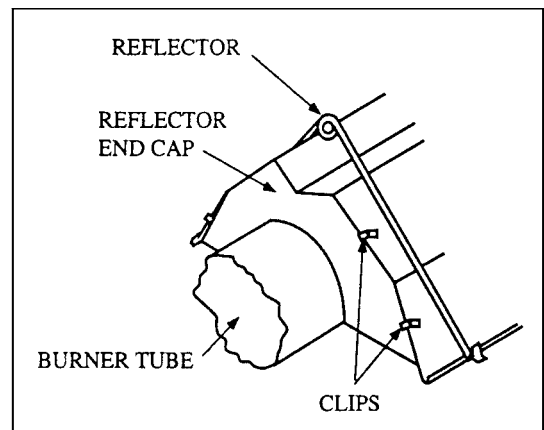

Figure 1-8
11. Install reflector end caps at exposed ends of the reflector runs (Figure 1-8).